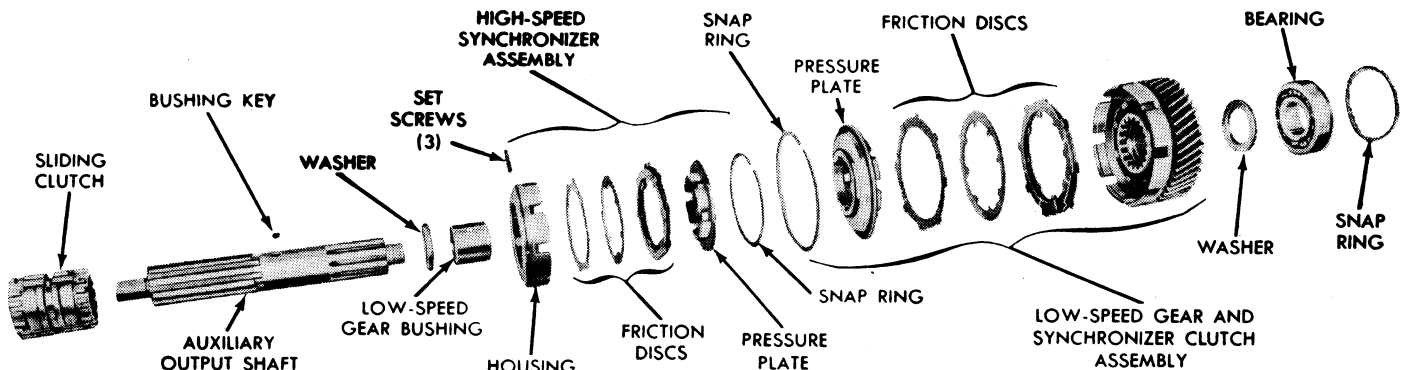

**Fig. 9 Removal of one screw from high-speed synchronizer clutch housing**
7. Shift main transmission into neutral and auxiliary unit into low range. Remove lock wire from groove at front end of auxiliary high speed synchronizer clutch housing. Remove 3 set screws (in lock wire groove) which secure high speed synchronizer clutch housing to auxiliary drive gear, Fig. 9. Move clutch housing to rear against auxiliary shifting yoke.